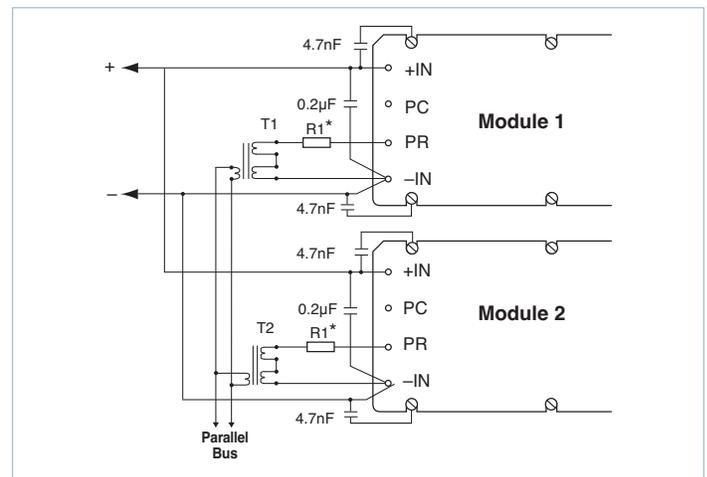

Figure 2.8 — Transformer-coupled interface
2. **Transformer-coupled interface:** Modules or arrays of modules may also be interfaced to share a load while providing galvanic isolation between PR pins via a transformer-coupled interface. For large arrays, buffering may be required. The power source for the buffer circuit may be derived from the PC pins. For arrays of four or more modules, the transformer-coupled interface is recommended. (Figure 2.8)
Some applications require physical separation of paralleled modules on different boards and / or input power from separate sources. For applications using separate sources, please refer to the "Hot-Swap Capability Eliminates Downtime" application note on the Vicor website. In these cases, transformer coupling of the PR signal, per Figure 2.8, is required to prevent inter-module common-mode noise from interfering with the sync-pulse transmission. High-speed buffering may be required with large arrays or if the distance between modules is greater than a few inches. This is due to the fact that all modules, except the one that's talking, are in the listening mode. Each listener presents a load to the parent (talker), which is approximately 500Ω shunted by 30pF capacitance. Long leads for the interconnection introduce losses and parasitic reactance on the bus, which can attenuate and distort the sync-pulse signal. The bandwidth of the PR bus must